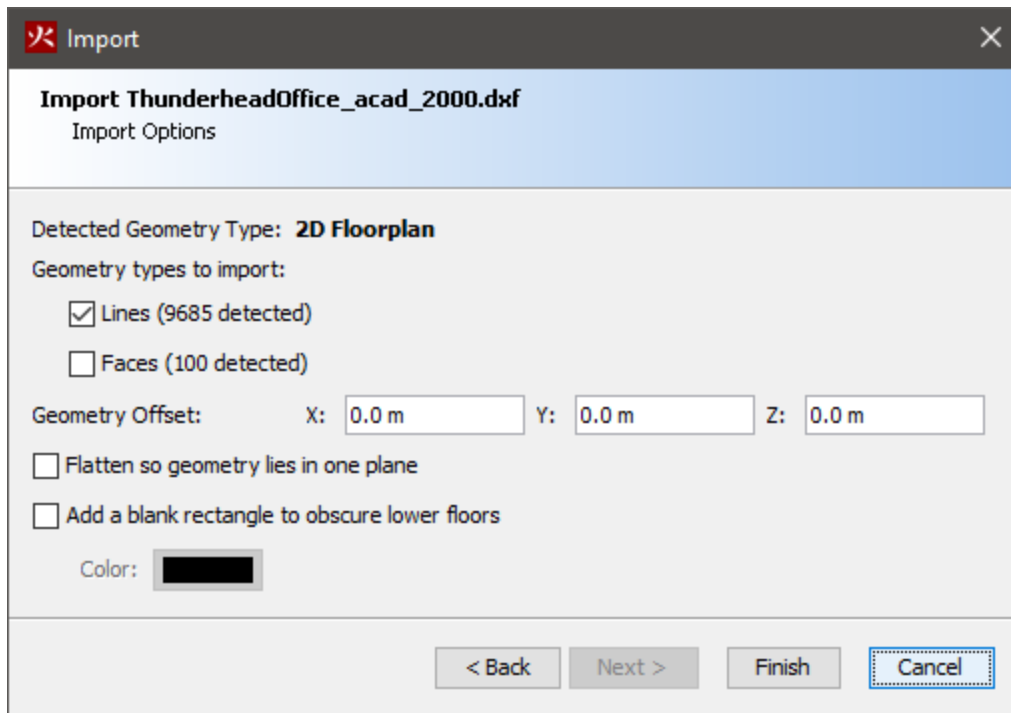

Figure 27. CAD import options
4. **Import Options:** This prompt allows the user to specify more options for import. Before this prompt is shown, PyroSim will attempt to discern if the CAD file contains a 2D Floorplan or a 3D Model and will select default values for the options based on the detected type, see Figure 27.